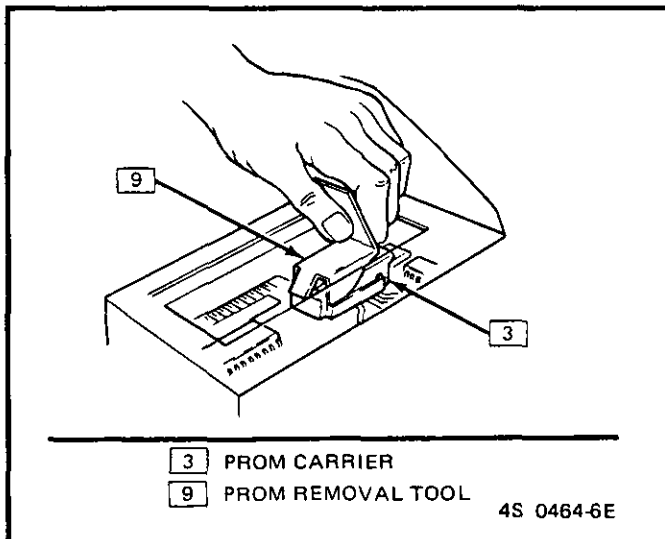

Figure C1-7 - PROM Removal Tool
5. PROM from ECM. (Fig. C1-7)
Using the rocker-type PROM removal tool, engage one end of the PROM carrier with the hook end of the tool (see Figure C1-7). Press on the vertical bar end of the tool and rock the engaged end of the PROM carrier up as far as possible.